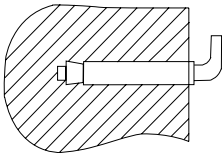
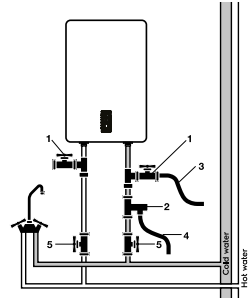

Fig. 4. Mounting anchor for mounting.
Fig. 5
- Connect the drain hose (item 3 in Fig. 5) to the shutoff valve.
anywhere in your home, in a heated (!) room. It is advisable to install the heater as close as possible to where the hot water is used, because the shorter the length of the pipes, the less heat is lost. As shown in Fig. 5. When installing the heater close to a wall, leave the recommended clearance for maintenance. Do not install the heater on a horizontal surface and up against the floor. After selecting the mounting location, locate the two fastening bolts with hooks (depending on the specifications of the selected product). Make two holes in the wall to the required depth corresponding to the size of the mounting bolts, insert the screws, rotate the hook upwards, tighten the nuts firmly and then install the electric water heater on it (see Fig. 4). If the bathroom is too small to accommodate the water heater, it can be installed in any other room, protected from direct sunlight and rain.
If you want to implement a water supply system for several water points, use the connection method (see Fig. 5).